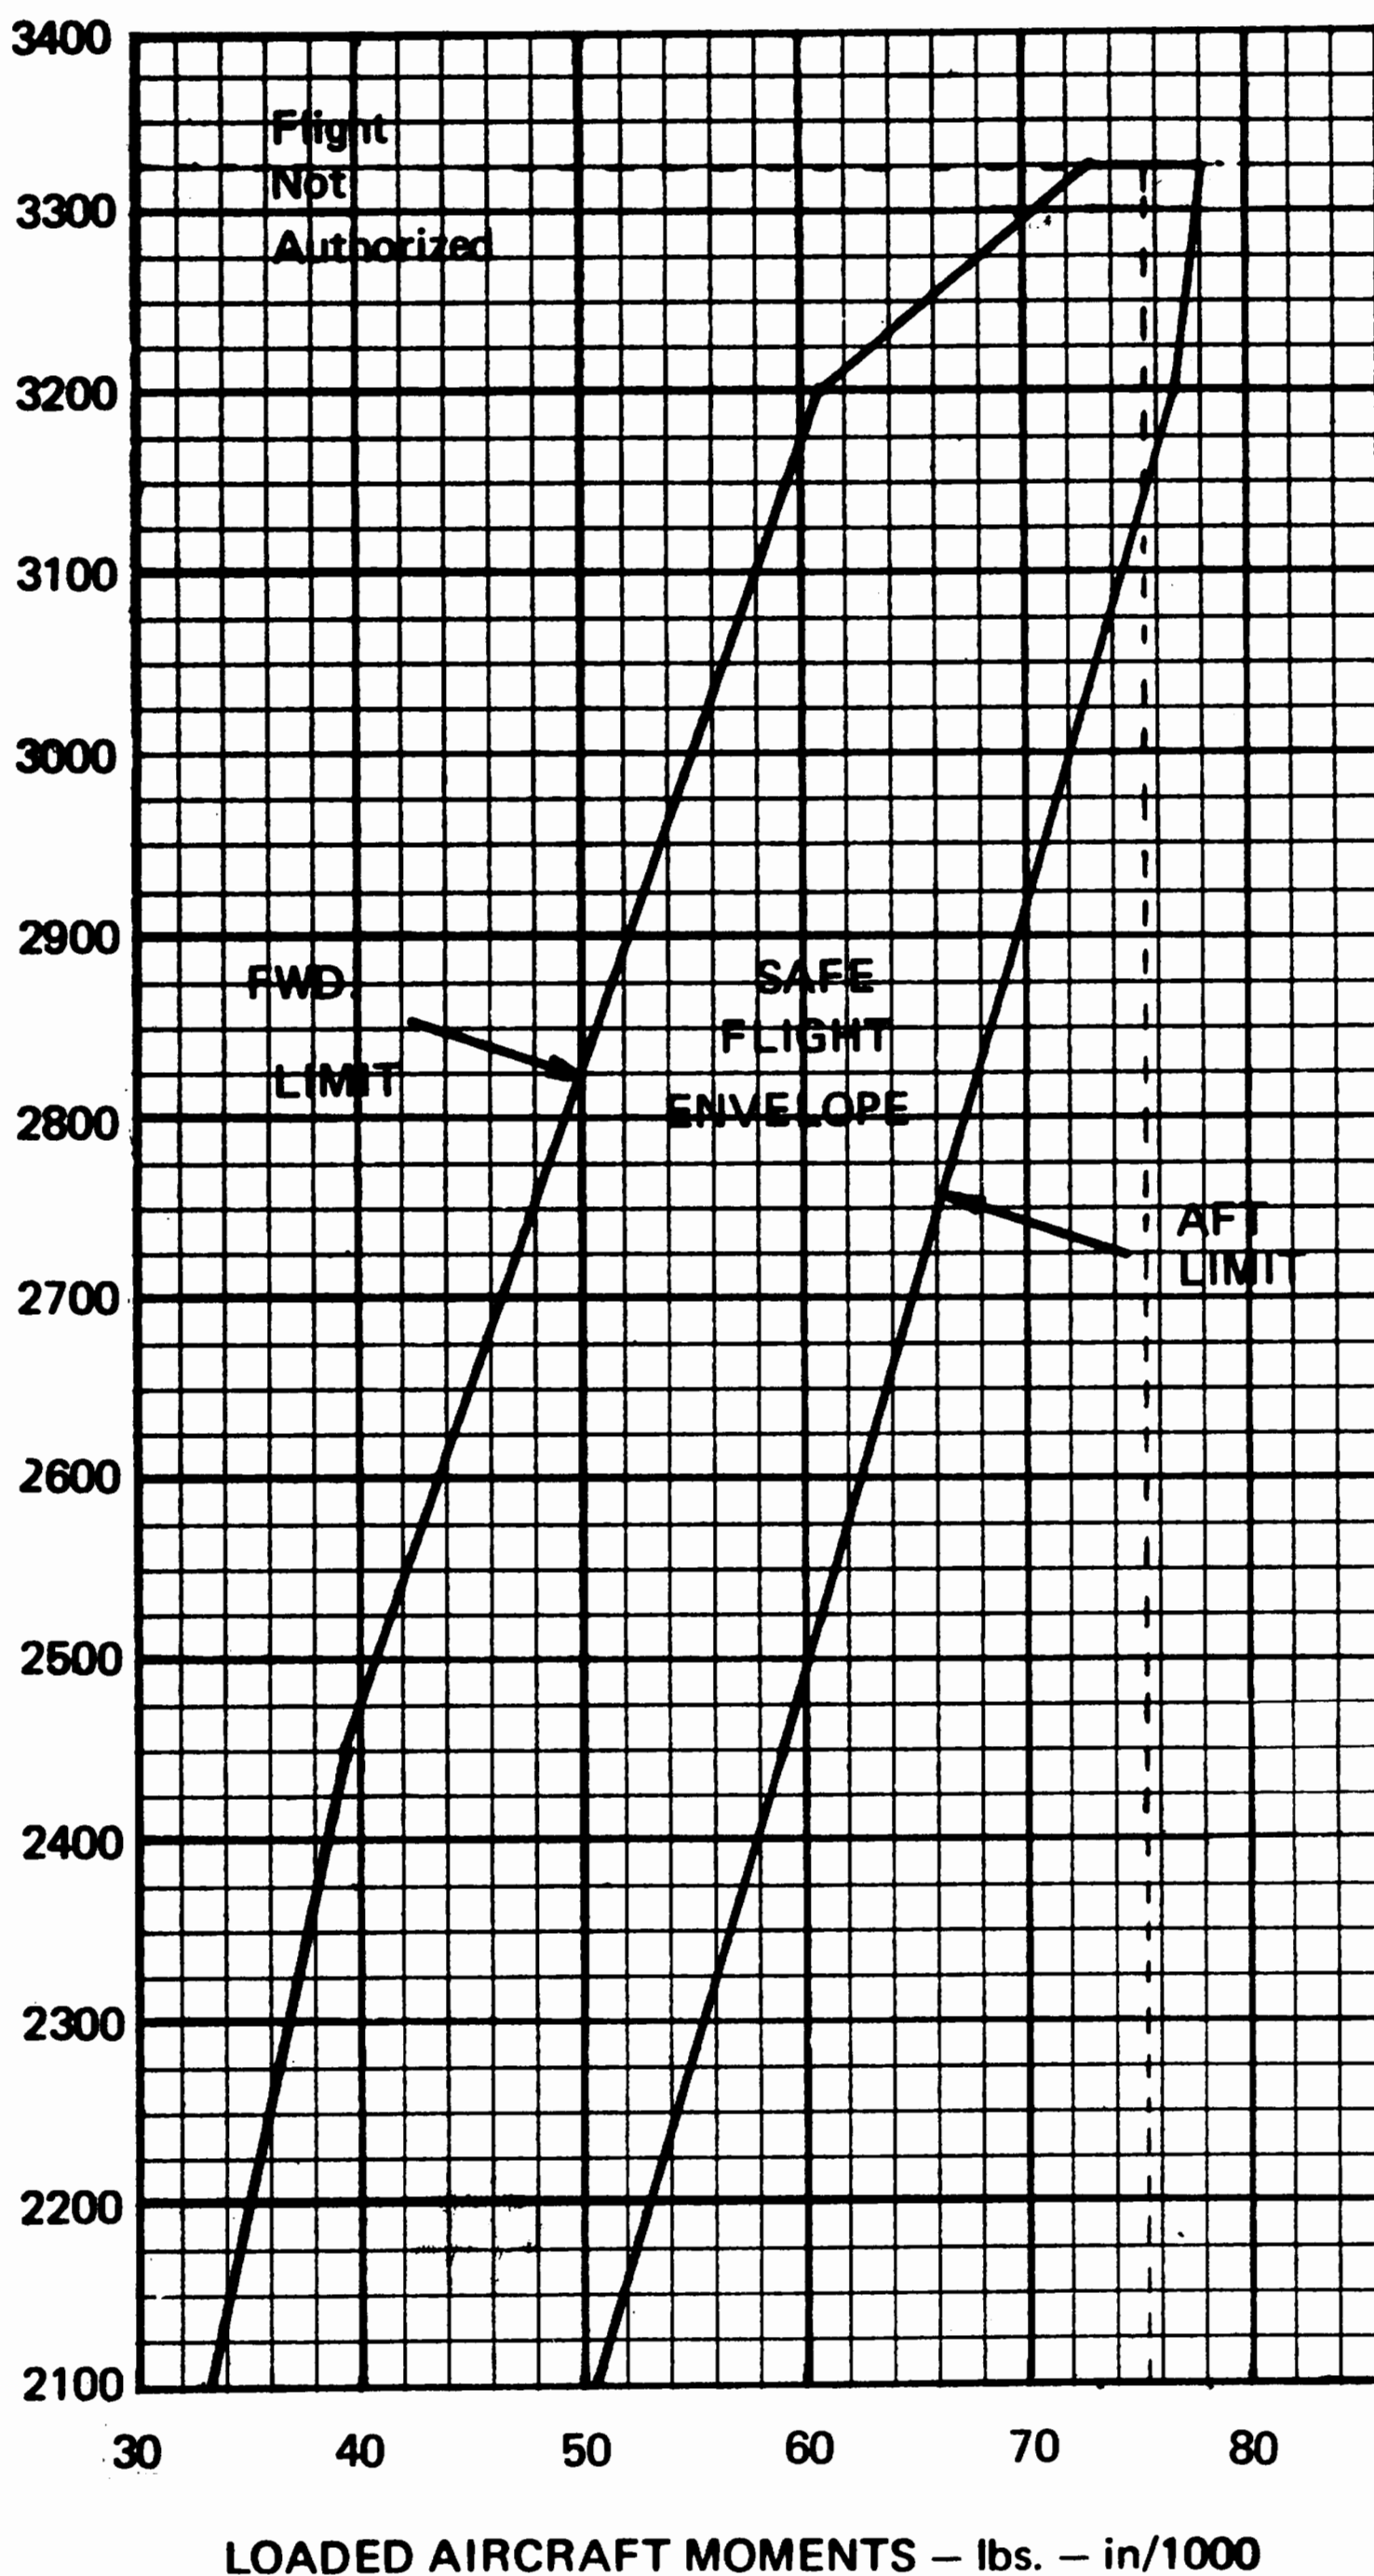

Fig. 4-3 FLIGHT ENVELOPE
5. Using the Flight Envelope, Fig. 4-3, determine that the gross take-off weight and moment are within limits.